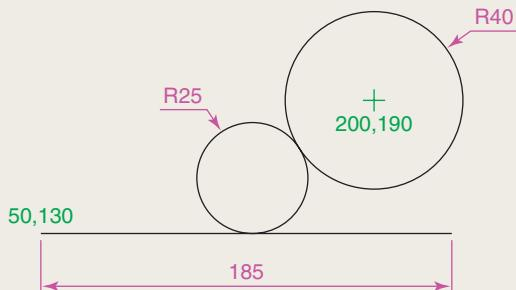

Fig. 2.32 Exercise 5
5. In an **acadiso.dwt** screen and using the **Circle** and **Line** tools, construct the line and circle of radius **40** shown in Fig. 2.32. Then, using the **Ttr** prompt, add the circle of radius **25**.